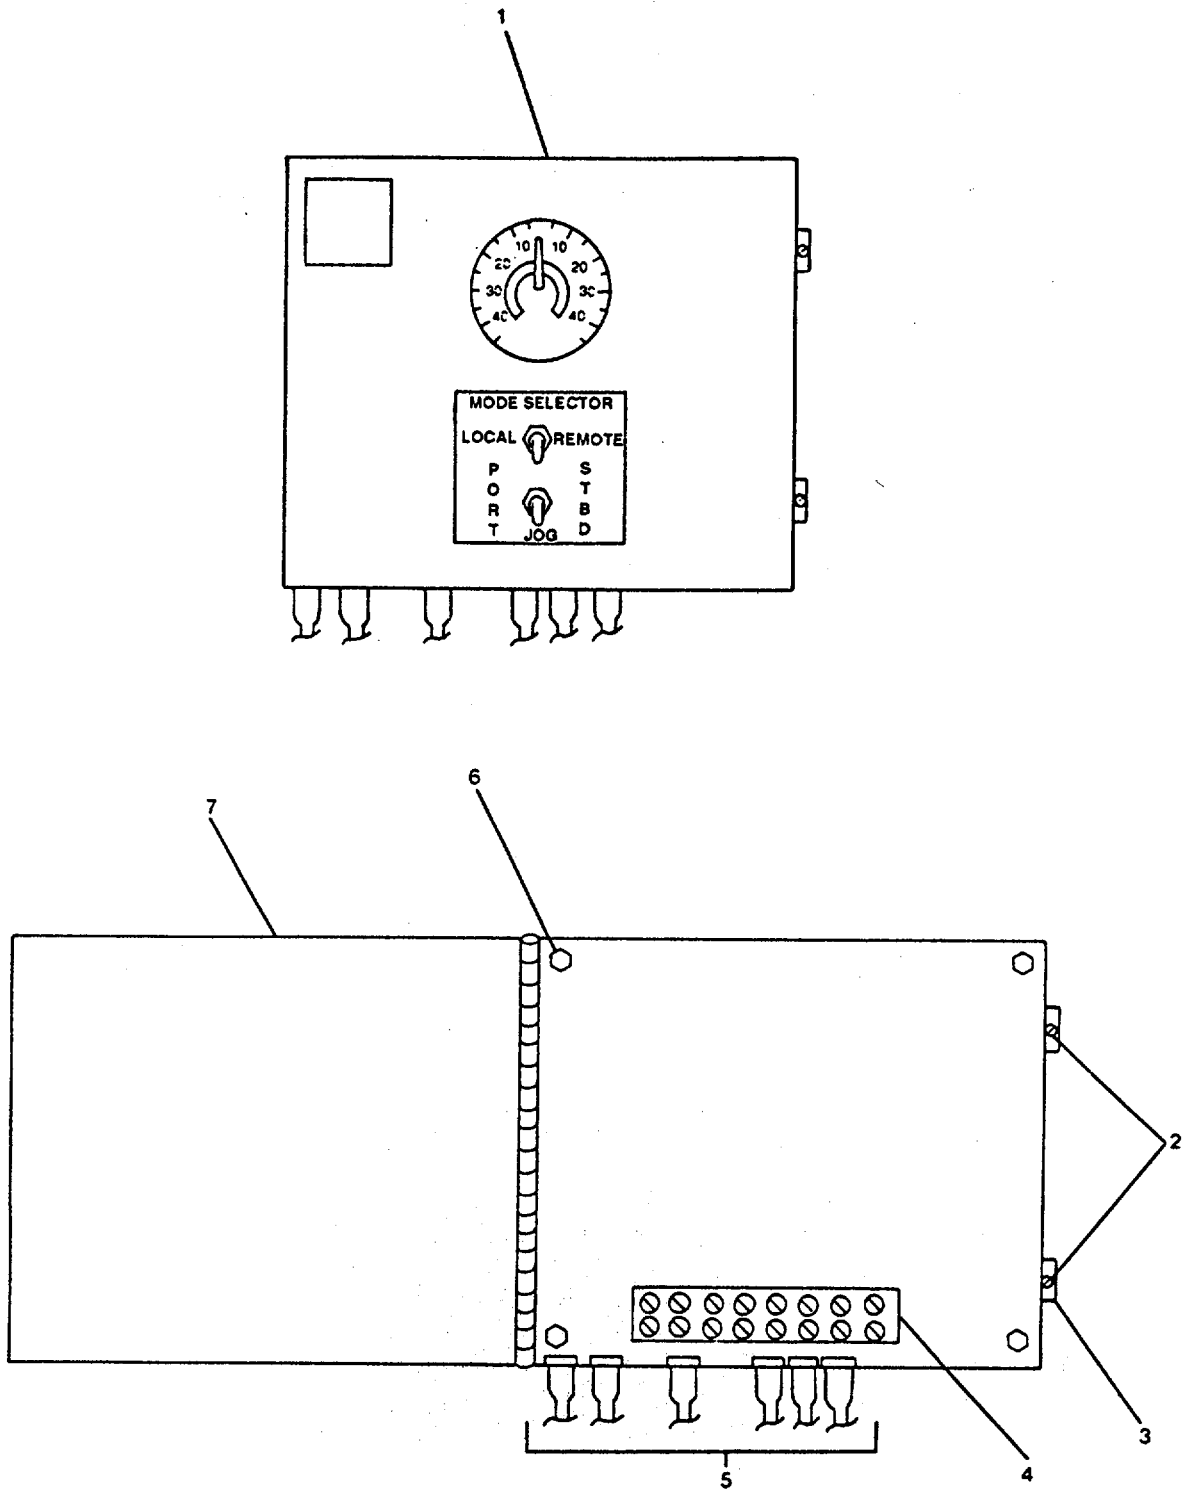

FIGURE 3-108. *Isolation Control Unit.*
- a. Install junction box assembly (1) in back of pilothouse control console.
- b. Secure with four mounting screws (2).
- c. Connect electrical wires (4) to terminal board (6). Remove tags.
- d. Close door and secure door latches (3).
**3-120. Replace/Repair Isolation Control Unit. (Figure 3-108)**